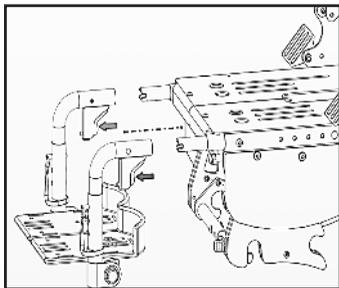

Fig. 37
3. Remove the removable leg rest. Fig. 37